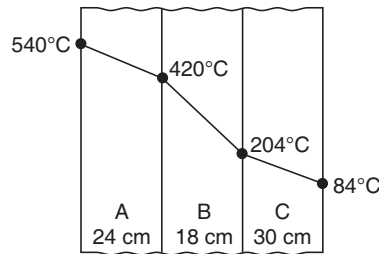

FIGURE 7.15
55. The wall thickness and the temperatures at the various wall faces of a composite wall made of three layers of different materials are as indicated in Fig. 7.15. These parameters indicate that